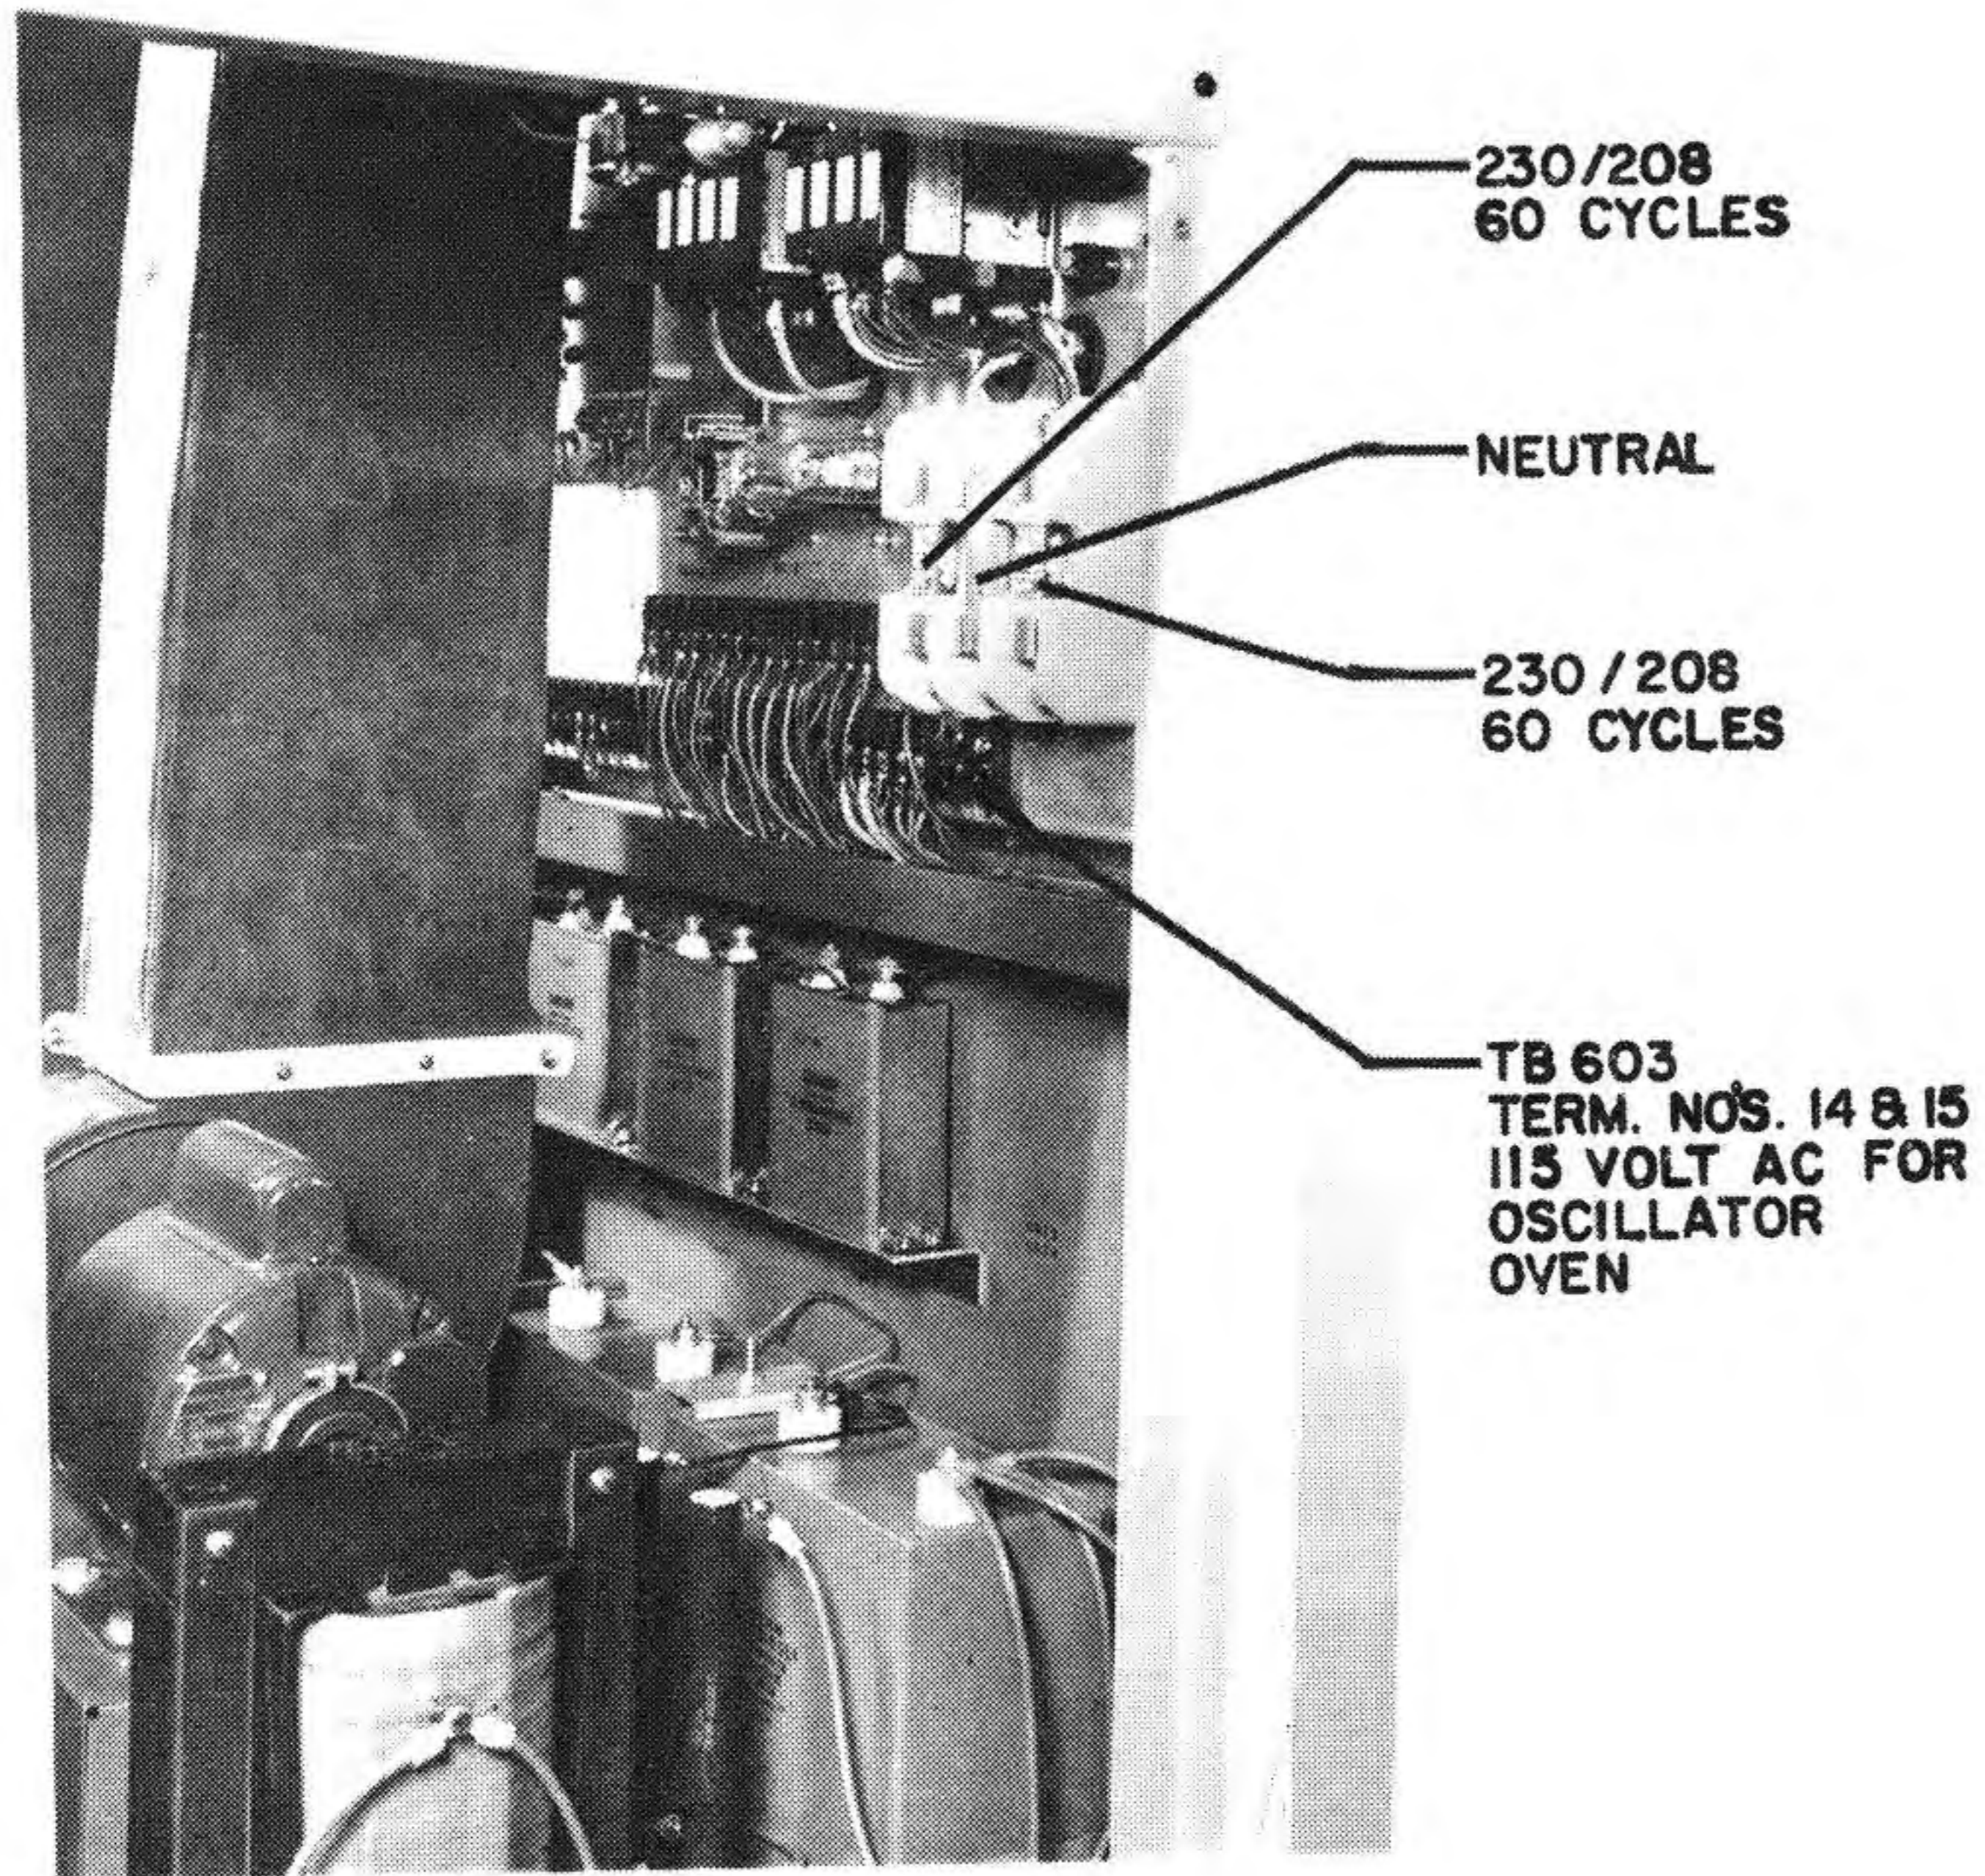

FIG. 2
2. Connect the main transmitter power wiring to the fuseblock as shown in Fig. 2, Page 7. Make sure that the neutral wire is connected to the center terminal of the fuseblock.
3. Connect 115 volts AC to terminals #14 & 15 on TB603. It is suggested that the building lighting circuit be used as this voltage is always left on to operate the crystal oven continuously. See Fig. 2.
3. Place the POWER CHANGE SWITCH in the 1000 watt position, Fig. 2, Page 7.
20. Readjust the signal generator for 100% modulation, turn off the signal generator and measure the noise. Adjust the HUM BALANCE CONTROL, Fig. 2, Page 7 for minimum noise. Assure that test equipment leads, and power supply connections are not contributing to the measured noise.
1. Place the POWER CHANGE SWITCH to the low power position. See Fig. 2, Page 7.